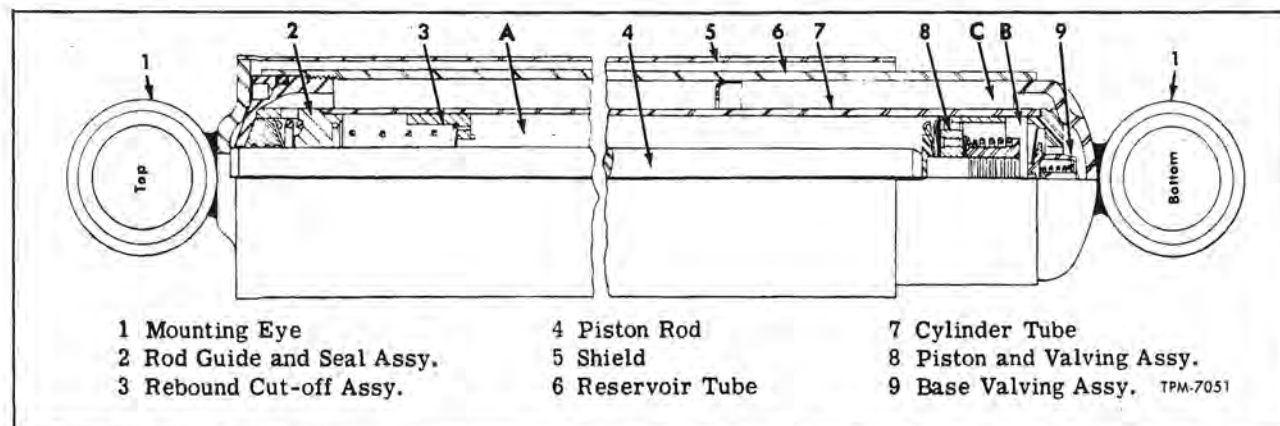

Figure 38—Sectional View of Shock Absorber
Shock absorbers used at front and at rear axles are double-acting, telescoping type. The principal components of the shock absorber, illustrated in figure 38 are: Piston and valving assembly (8), piston rod (4), rod guide and seal assembly (2), cylinder tube (7), base valving assembly (9), reservoir tube (6), shield (5), and mounting eyes (1). The cylinder tube (7), is completely filled with special hydraulic fluid, with an additional amount in the reservoir tube. Front and rear shock absorbers are identical.
Starting with the shock absorber in closed position as illustrated in figure 38, the control of the opening or "rebound" stroke is as follows: As the piston assembly (8) travels upward, the fluid is compressed in the top portion (A) of the cylinder tube (7) and is forced through orifices in the piston